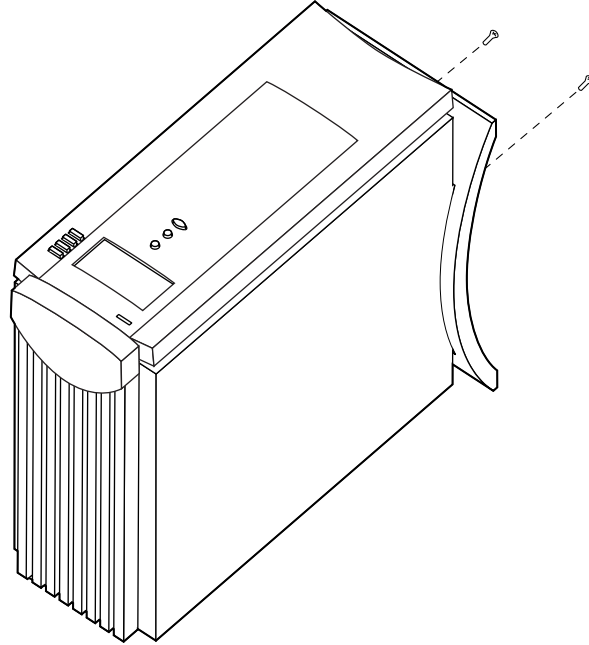

Figure 2-3 Attaching the Fiery XJ BP100 stand
1. ***Set the Fiery XJ BP100 on a flat surface, with the front of the chassis facing up (see Figure 2-3 on page 2-11).***